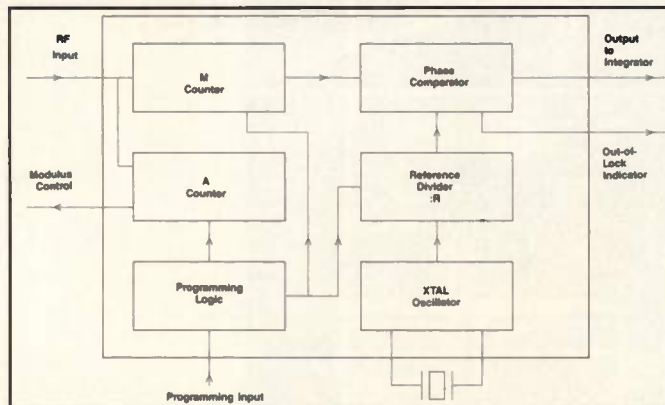
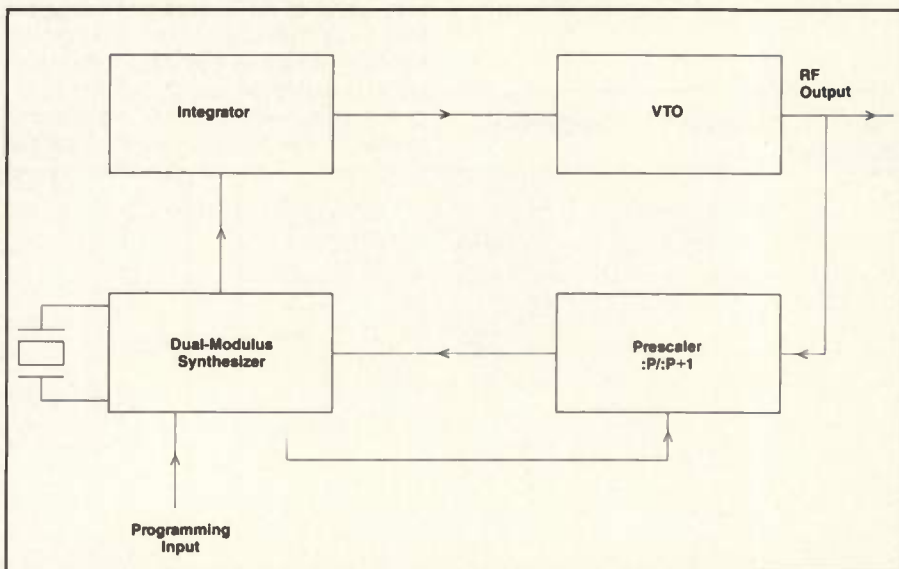

Figure 3. Typical dual-modulus synthesizer.
Figure 4. Dual-modulus circuit.
This is a more versatile IC (Figure 3). Two internal dividers are used (:M and :A), one to control the dual modulus prescaler, as in the Motorola MC145146-1 and Plessey NJ8821. Control logic is provided internally to control these counters and also the internal reference divider, :R. A typical dual-modulus synthesizer circuit is shown in Figure 4. The total division (N) from the output frequency to the comparator frequency is: